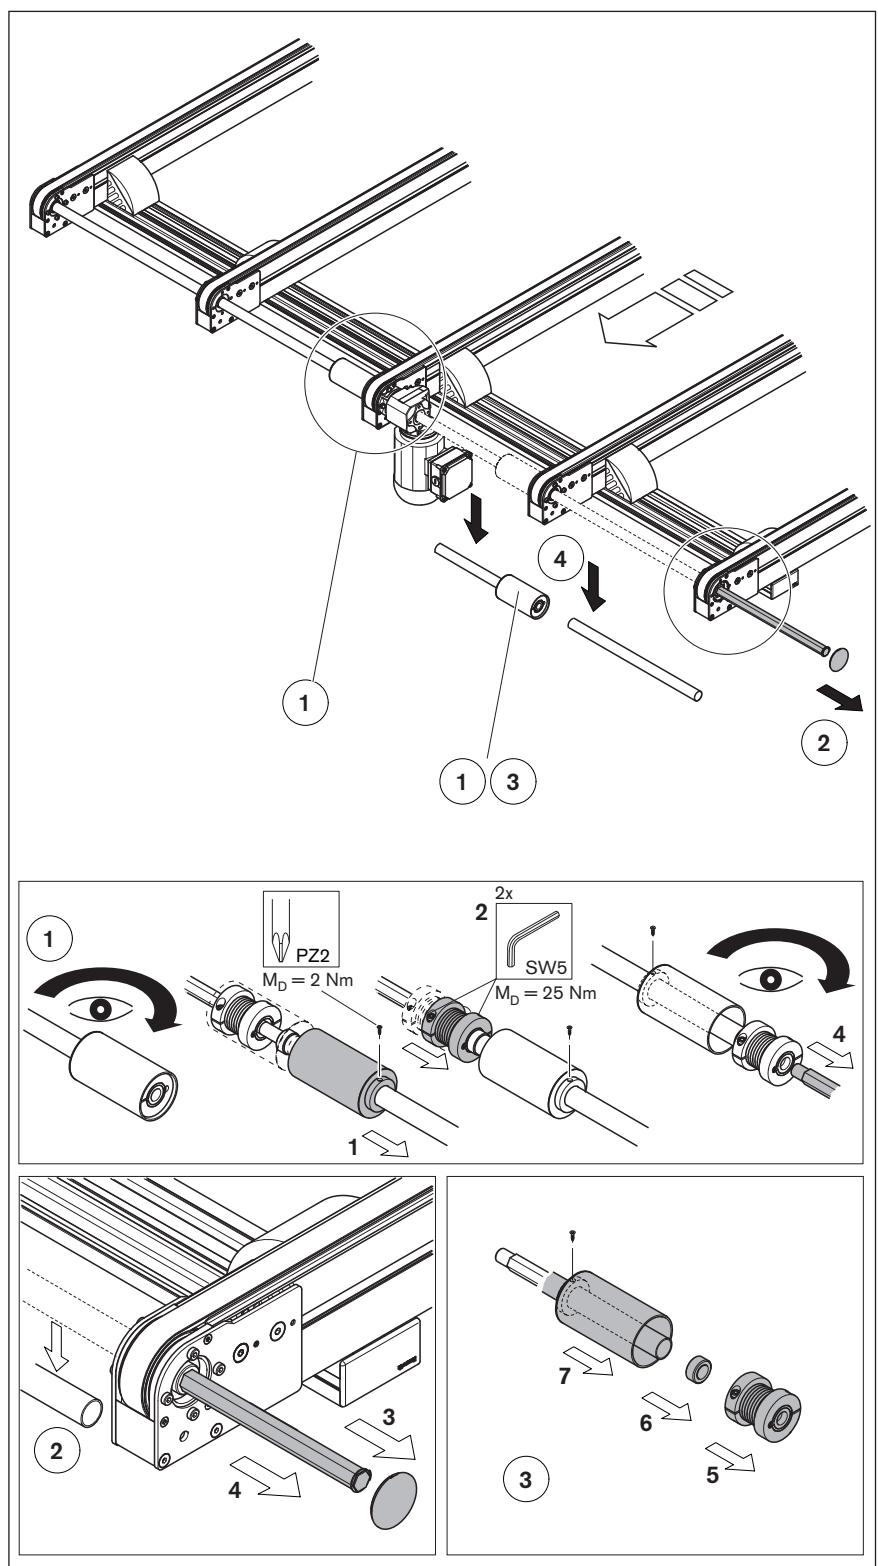

Fig. 20
- Frequency measuring instrument (C) with sensor head (B) to measure the belt tension.
- 2 pins ø4x40 mm (A).
Lift the belt off of the guide profile, slide two pins ø4 mm (A) between the belt and guide profile (see "Fig. 20" on page 40).